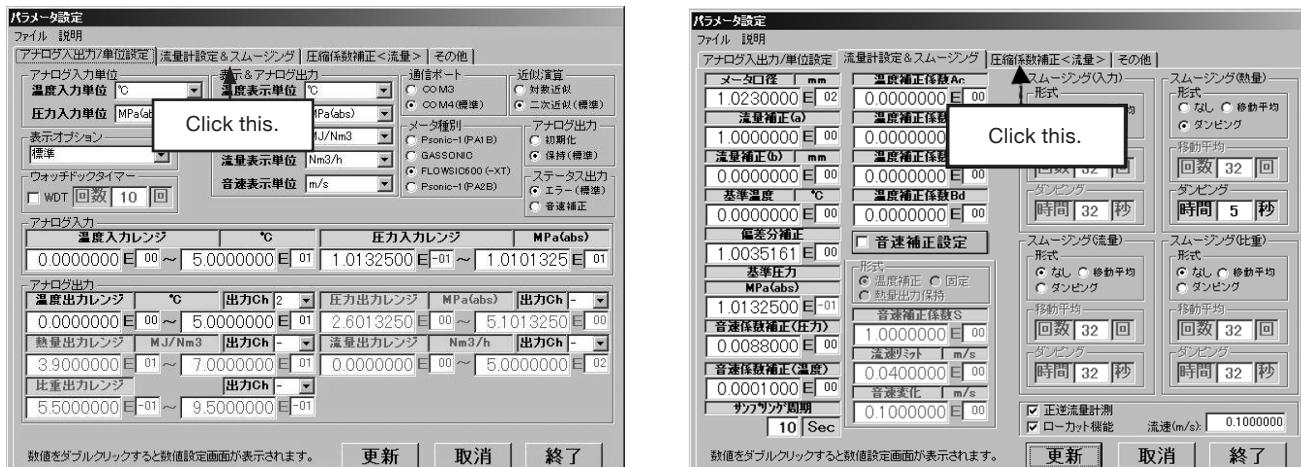

Fig. 8.4.1 Transiting to the Parameter Setting Screens
2. When the screen as shown in Fig. 8.4.1 appears, click the item (tab) you want to transit to.